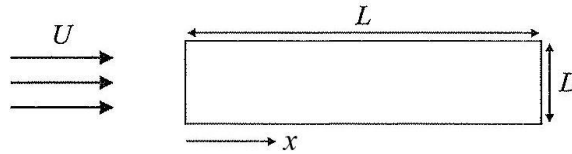

Figure P9.31
9.31 The vehicle shown in Figure P9.31 has a circular cross-section of diameter D , and it is traveling at a velocity U in air with a density of ρ and a viscosity μ . It has a total drag coefficient C_D , given by